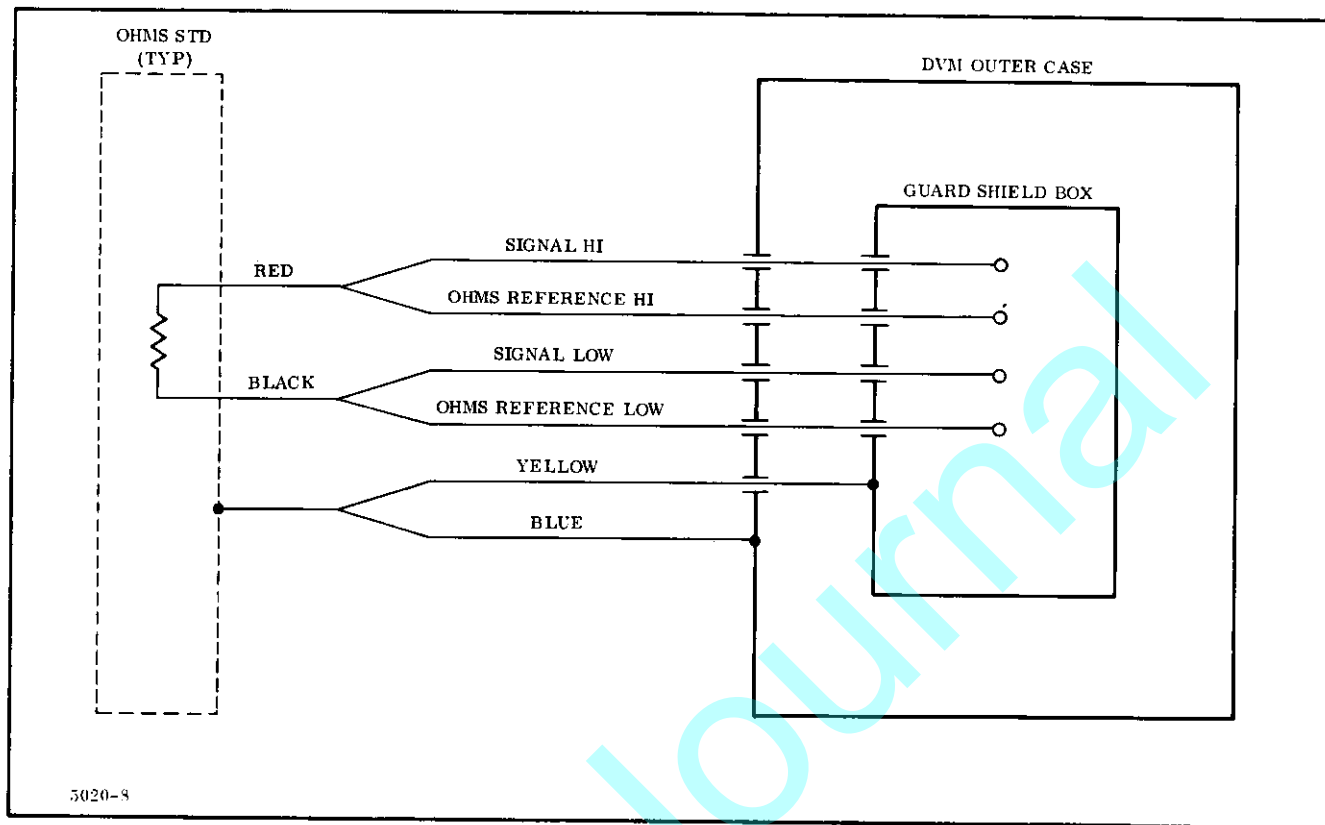

Figure 3-13. Ohms Calibration Cable Connections
2. Connect input leads of instrument to an ohms standard accurate to $\pm 0.01\%$ (figure 3-13). The values required are called out in each calibrating step.